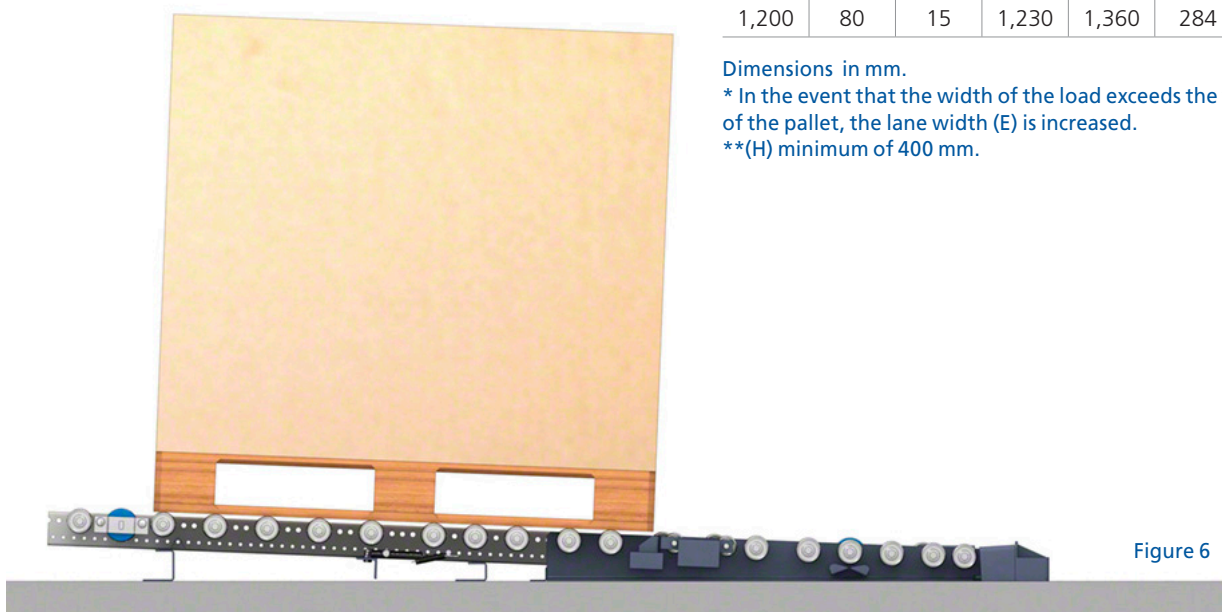

Figure 6
Figure 6 below shows the profiles fitted directly on the ground, to reduce height (F).